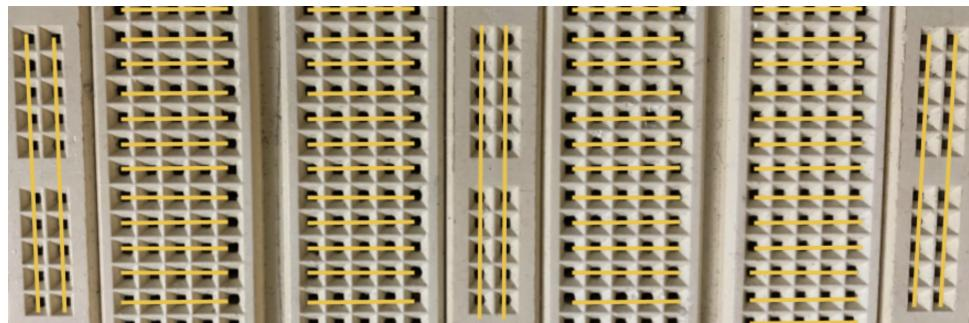

Figure 3: Annotated breadboard connections.
- Power buses:** The vertically connected sections used to distribute power, as depicted by the vertical yellow lines in Figure 3.
- Terminal strips:** The horizontally connected sections, each in groups of 5, as depicted by the horizontal yellow lines in Figure 3.